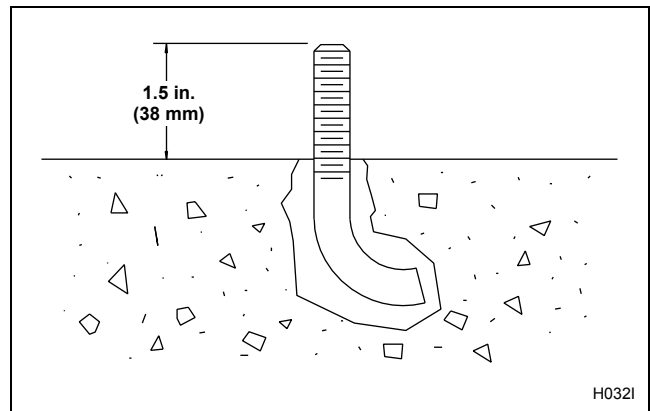

Figure 12
6. Verify that the J-bolts are in the correct locations and that 1.5 inches (38 mm) of each J-bolt protrude from the floor. Refer to *Figure 12*.